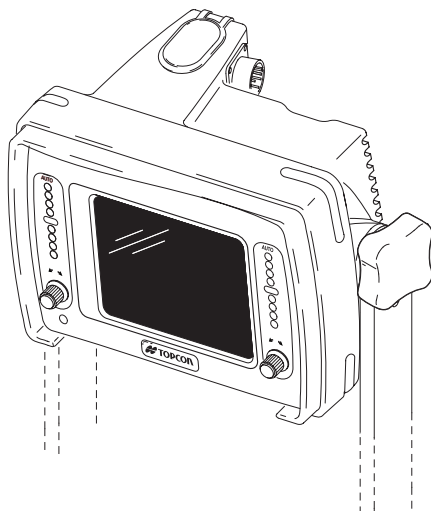

Figure 5-10. Attach Control Box to Machine
1. Use the hand knob to attach the control box to the in-cab bracket (Figure 5-10).